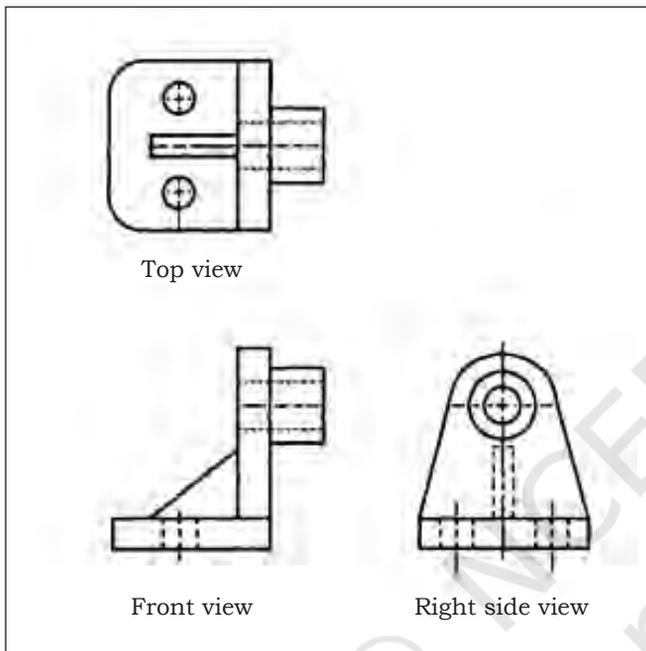

Fig. 1.40: Orthographic views
7. Check the places of the views shown in Fig.1.40. As per practice, the top view is placed above the front view and the right side view is placed to the right of the front view. If additional views are needed, the left side is always drawn to the left of the front view and the bottom is drawn below the front view. Placement of the back view is flexible; it is usually drawn to the left of the left side view.